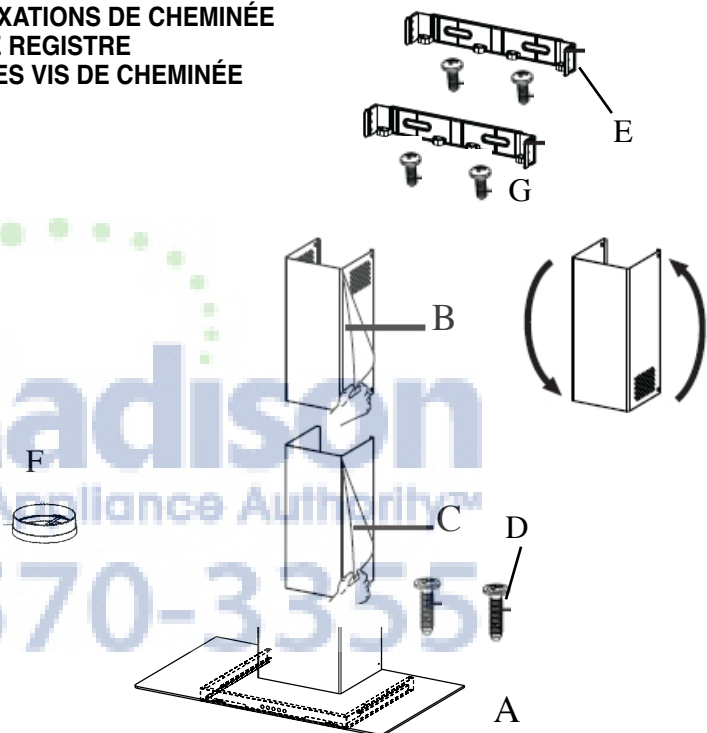

FIGURE 1
8. See **FIGURE 1 for reference**, The Upper chimney cover can be installed with the side vent holes on the top towards the ceiling, or flip the chimney and hide the holes under the lower chimney. Install the UPPER CHIMNEY COVER (**B in FIGURE 1**) by slightly widening the two sides and hooking them behind the CHIMNEY MOUNTING BRACKETS (E). Secure the sides to the CHIMNEY MOUNTING BRACKETS with the 4 CHIMNEY SCREWS (G). Install the LOWER CHIMNEY COVER (C) by slightly widening the two sides of the LOWER CHIMNEY COVER and hooking them between the UPPER CHIMNEY COVER and the wall making sure that it fits snugly. Secure the LOWER CHIMNEY COVER to the CANOPY SECTION (A) with 2 CHIMNEY SCREWS (G).
1. Retirer l'appareil de la boîte et le déposer sur une surface plane pour l'assemblage. Couvrir la surface pour éviter tout dommage. Retirer toutes les pièces incluant les ferrures avant de jeter la boîte. (A,B,C in FIGURE 1)